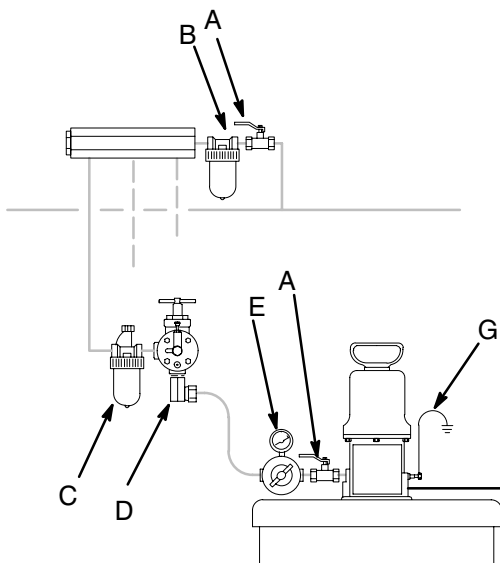

Fig. 4
Install the accessories in the order shown in Fig. 4. Mount only the air regulator (E) and a master air valve (A) at the pump. Mount all other accessories on separate wall brackets to reduce stress on the pump inlet. Note that one air filter (B) can serve multiple pumps by using an air manifold downstream from the air filter.